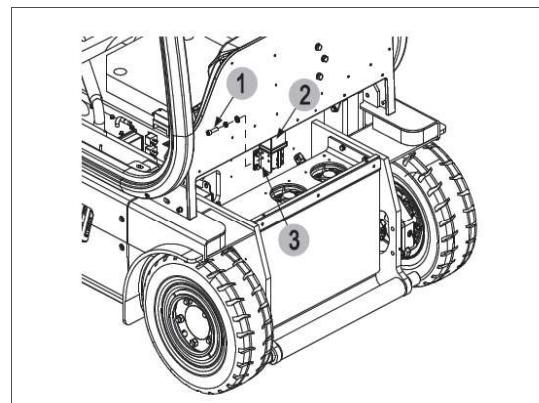

Figure 10-12 Main Contactor Removal
4. Remove the four screws (3, Figure 10-12).
5. Remove the main contactor (2) from the mounting plate (3).